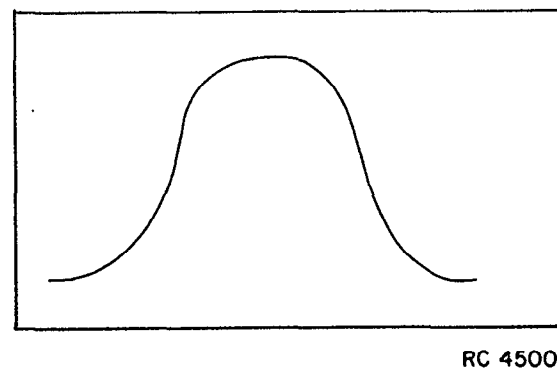

Figure 7 - IF Waveform
5. Adjust the AM output level to make sure the scope is triggering. Adjust the RF input signal level to keep the IF passband sweep pattern just below saturation (typ. 2  $\mu$ V). After using the vertical and horizontal positioning controls to center the waveform, check for a scope pattern similar to the one shown in Figure 7.